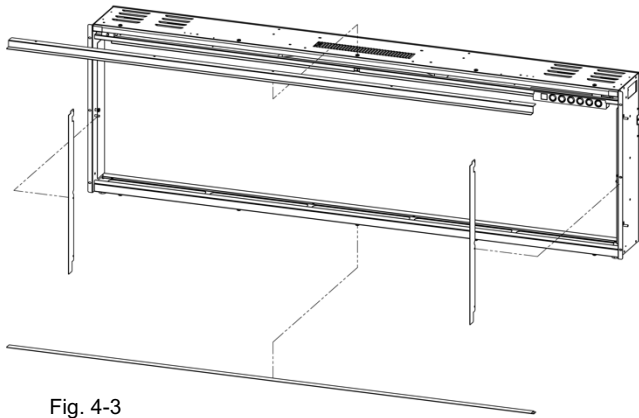

Fig. 4-3
- Remove the Slide-In Frame and store it in a safe place (Fig. 4-3)
There are 3 wires from the appliance junction box (Fig. 4-3): white (neutral), black (power L1), and green (ground) that are connected to 120V power source (circuit breaker panel).
- Using the previously removed wire nuts, connect the green wire (G) to the supply ground wire, the white wire (N) to the supply Neutral wire, and the black wire (L) to the supply L1 wire (Fig. 4-3).